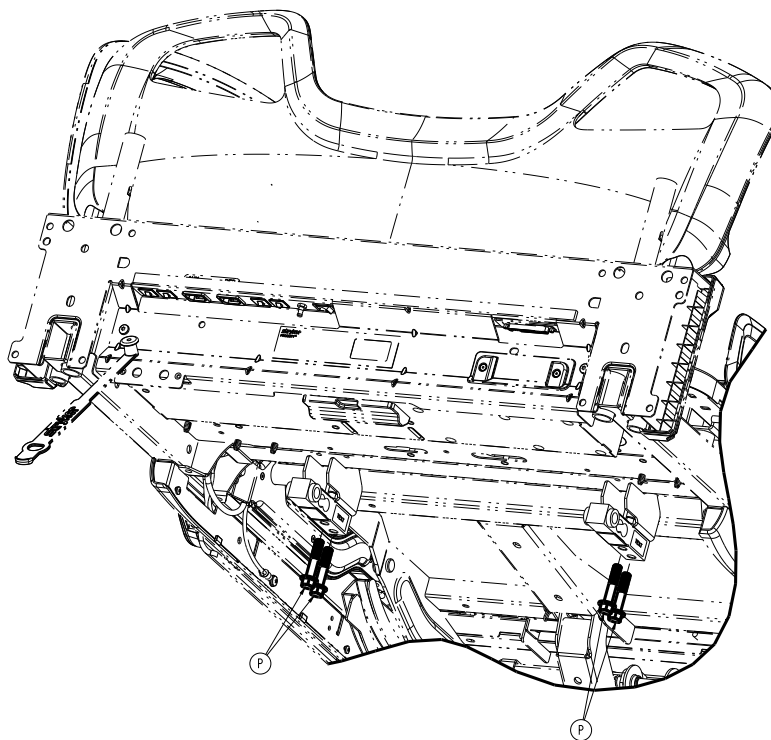

Figure 31 – Replacing the load cell
9. Using a ratchet, 9/16" socket, and a 9/16" wrench, remove the two bolts (P) and nuts that secure the load cell to the litter frame (Figure 31). Save the bolts and nuts. Remove the load cell.